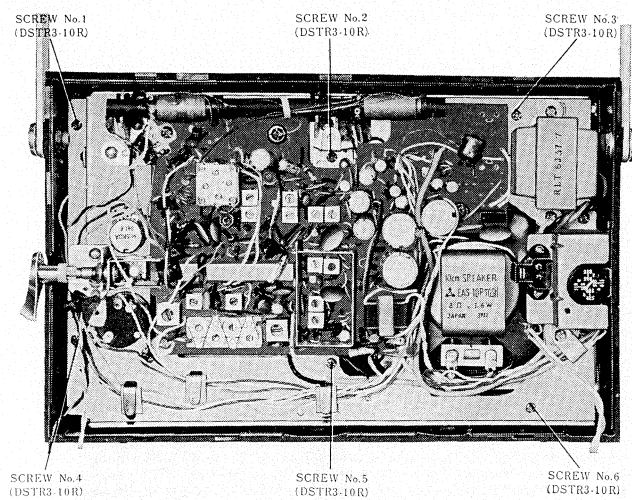

Fig. 1 Top View—Disassembly Points
### To Remove Chassis (Refer to fig. 1)
1. Remove three (3) control knobs from cabinet front.
2. Remove three (3) cabinet back cover mounting screws.
7. Remove six (6) red screws chassis mounting screws Nos, 1~6, as illustrated in fig. 1.
**Notes:** Replace earphone/external speaker or phono jack, as illustrated, in fig. 1.